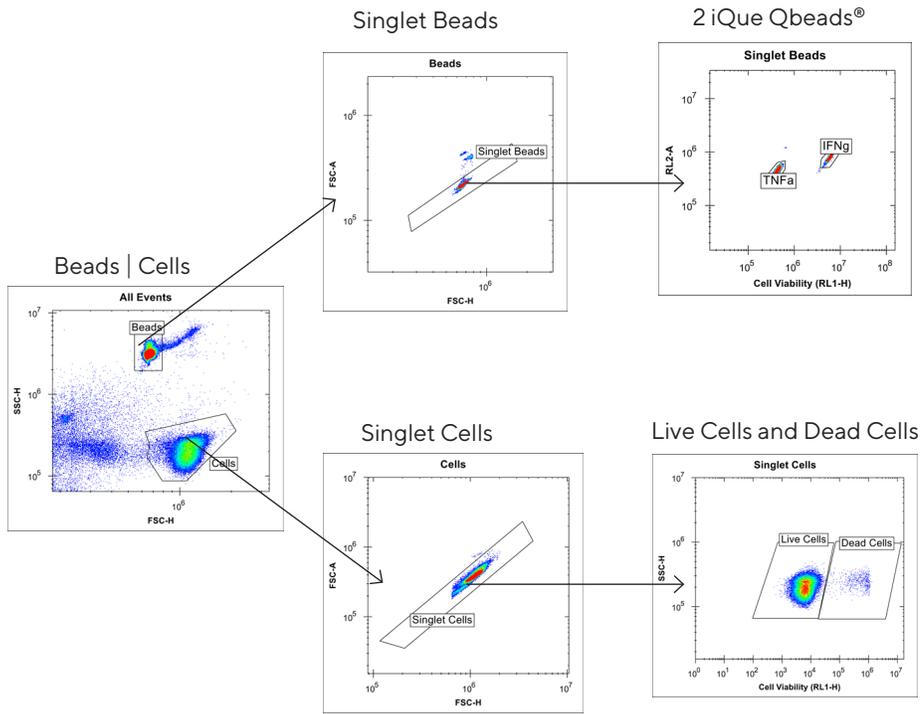

Figure 7. Gate Cell | Beads from All Events
Qbeads® | Human IFN γ and TNF α Capture Beads (**Figure 7**).
- 16.2.2 Bead | Cells → Singlet Cells → Live and Dead Cells (**Figure 7**)